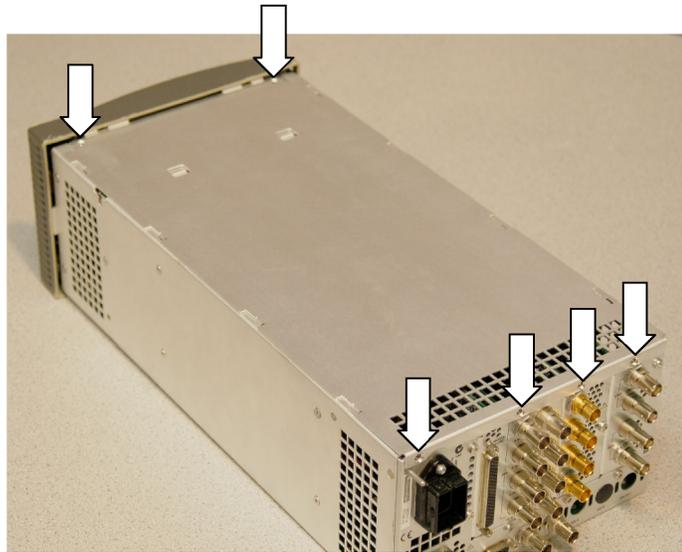

Figure 3: Removing the chassis cover
4. Remove the six screws from the chassis cover. (See Figure 3.) Save the screws for reinstallation.